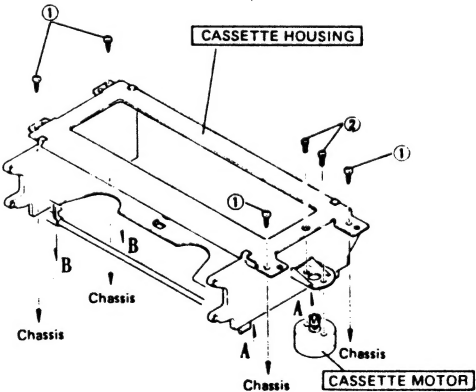

Fig. 2-5 Removint cassette housing
- 2) Take out 2 screws ② and replace the cassette motor (see Fig. 2-5).